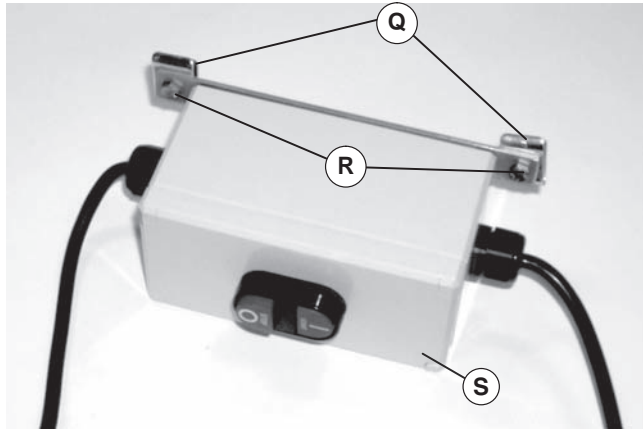

Figure 16
1. Attach two accessory mounting clips (Figure 16, item Q) to motor starter (S) with two M6 x 20mm hex head cap screws (R). Do not tighten screws.